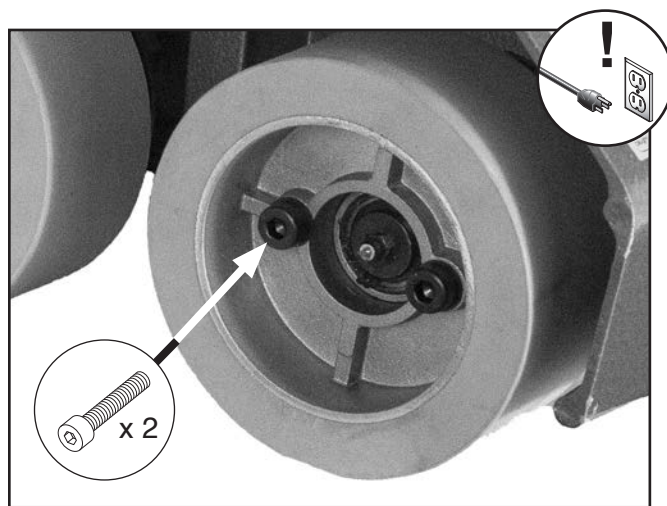

Figure 34. Location of roller cap screws.
2. Remove (2) cap screws that secure roller (see **Figure 34**).